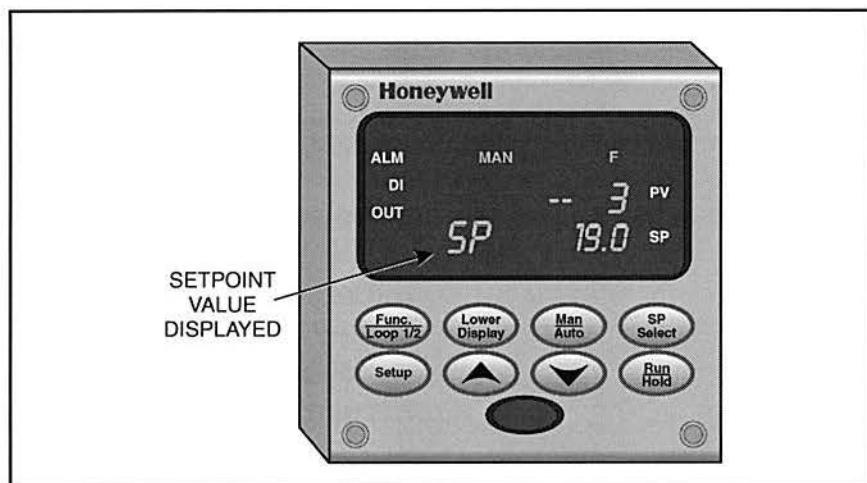

Figure 37. Lower Display Showing the Setpoint Value
- ❑ 6. Continue to press the **Lower Display** key until “SP” appears in the lower part of the display screen, as shown in figure 37.